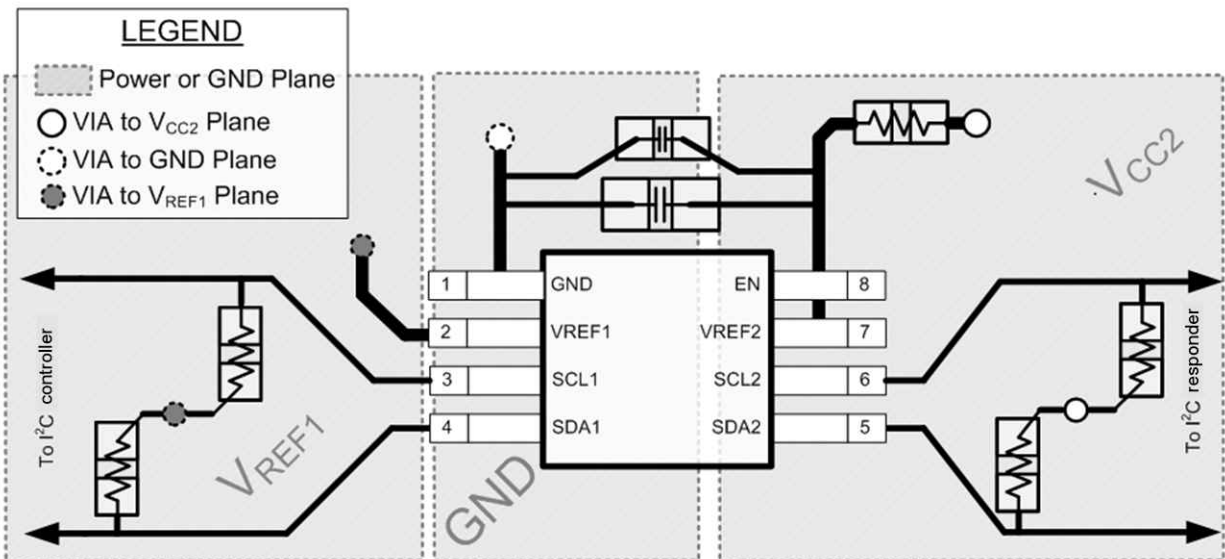

图 11-1. Layout Example
In all PCB layouts, it is a best practice to avoid right angles in signal traces, to fan out signal traces away from each other on leaving the vicinity of an integrated circuit (IC), and to use thicker trace widths to carry higher amounts of current that commonly pass through power and ground traces. The 100-pF filter capacitor should be placed as close to V_{REF2} as possible. A larger decoupling capacitor can also be used, but a longer time constant of two capacitors and the 200-kΩ resistor results in longer turnon and turnoff times for the TCA39306-Q1 device. These best practices are shown in 图 11-1.
For the layout example provided in 图 11-1, it would be possible to fabricate a PCB with only two layers by using the top layer for signal routing and the bottom layer as a split plane for power (V_{CC}) and ground (GND). However, a four-layer board is preferable for boards with higher-density signal routing. On a four-layer PCB, it is common to route signals on the top and bottom layer, dedicate one internal layer to a ground plane, and dedicate the other internal layer to a power plane. In a board layout using planes or split planes for power and ground, vias are placed directly next to the surface-mount component pad, which must attach to V_{CC} or GND, and the via is connected electrically to the internal layer or the other side of the board. Vias are also used when a signal trace must be routed to the opposite side of the board, but this technique is not demonstrated in 图 11-1.